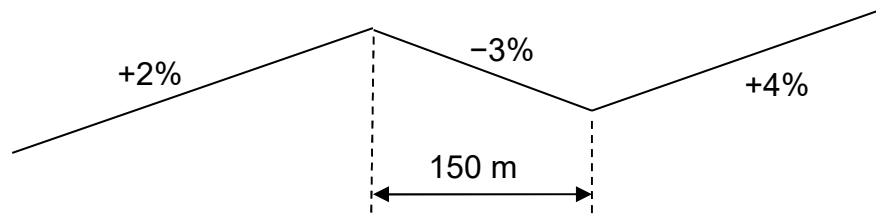

Figure Q4
- (a) A pair of vertical curves are to connect a series of tangent grades for which the slopes are shown in Figure Q4. The middle section is 150 metres long.